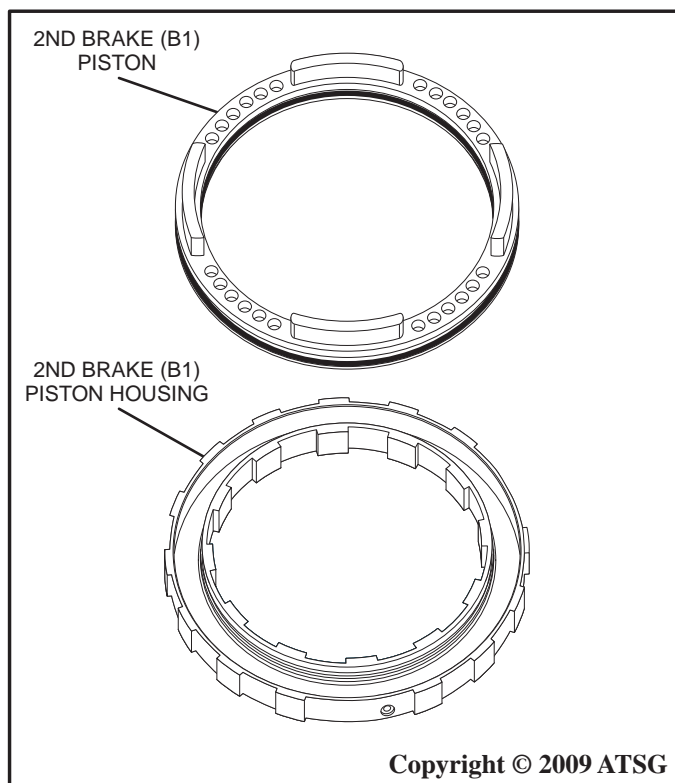

Figure 113
5. Carefully install 2nd brake (B1) piston into the piston housing with a twisting motion as shown in Figure 113.